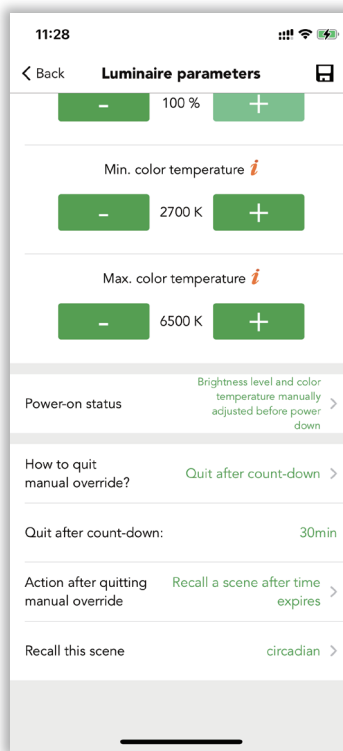

Figure 6.49 Luminaire settings
Step 6. Still in the bulk commissioning, select “set luminaires parameters in batch volume”, create new profile and change the settings, but need to modify the “how to quit manual override” option, as mentioned in the case, teachers can interrupt the circadian scene by Push switch, after the presentation is over, the luminaries need to be switch back to the circadian rhythm scene automatically. sync to all the relevant luminaires. The default is “quit after hold time (20 mins in this case)”. They also can quit after a specific time or count down time. Here we suggest quitting after “count-down” 30 mins (see figure 6.49). Action after quitting manual override to set as “recall a scene after time expires”. Then recall the “circadian” scene again. So, when the teacher finishes the PPT (30 mins), the luminaries will switch back the circadian rhythm scene automatically.